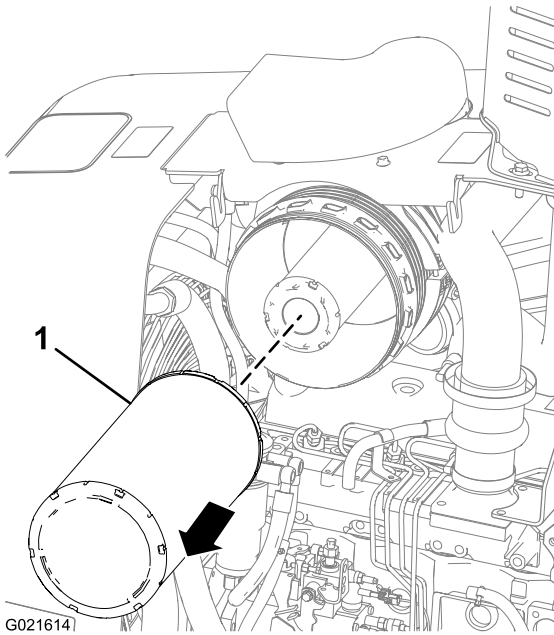

Figure 51
2. Pull the primary air-cleaner element outward and remove it from the air-cleaner housing (Figure 51).
6. Insert the new primary air-cleaner element into the air-cleaner housing (Figure 51).